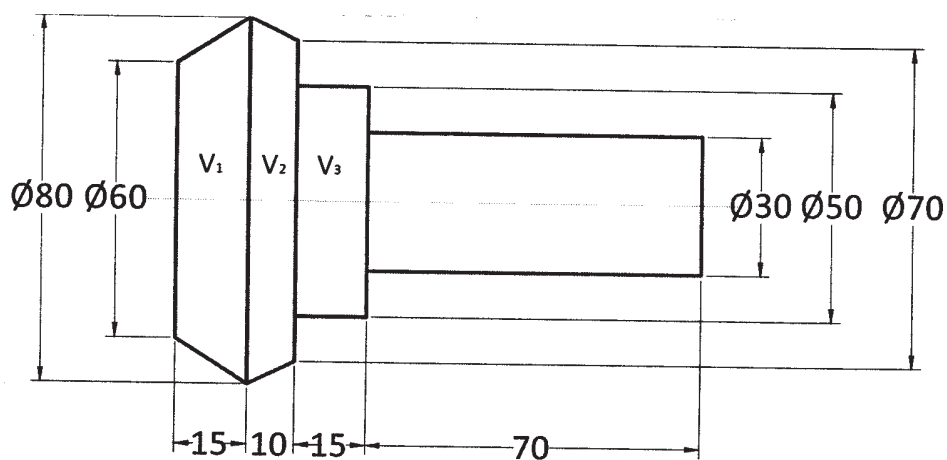

Figure 2
**Q8)** Design a upsetting die for the component shown in Figure 2 [18]